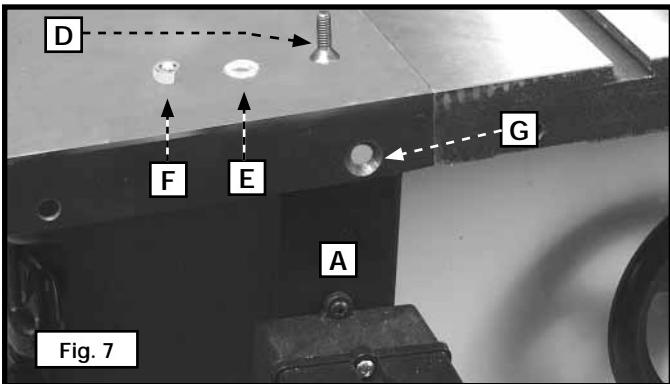

Fig. 7
1. Loosely attach the switch and bracket (A) Fig. 7 to the inside front lip of extension wing. Insert a 5/16-18 x 1" flat-head screw (D) through the hole (G). Place a 5/16" flat washer (E) on the screw and secure it with a 5/16" hex nut (F).